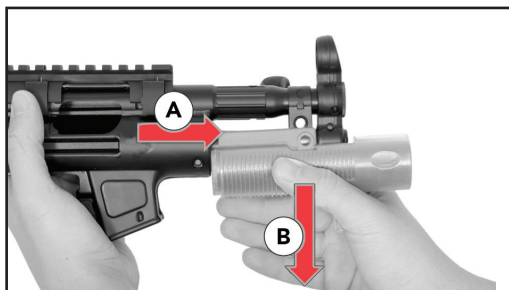
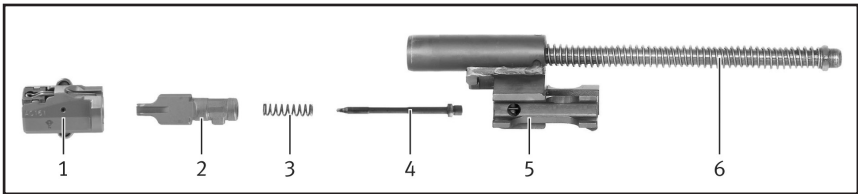

Fig. 36 – Remove pistol grip
Fig. 38 – Components of the bolt group
8. Pull handguard towards muzzle (Fig. 36-A) and downwards (Fig. 38-B) to remove it.
4. Remove firing pin and pressure spring for firing pin forward out of the bolt carrier (Fig. 38).